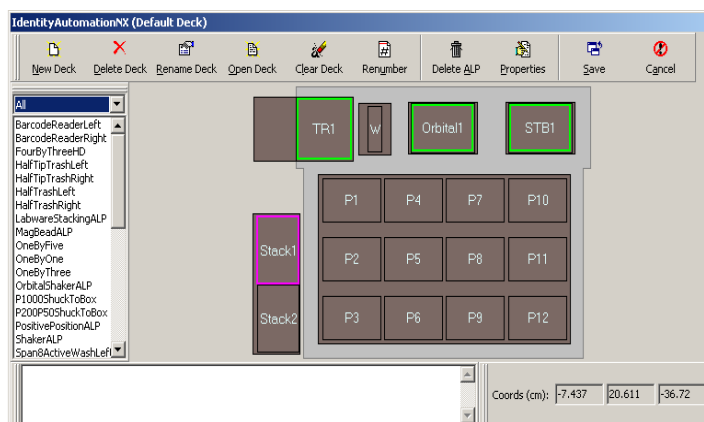

Figure 2. Deck positions.
- 2.3 The Deck Editor window will open up showing deck all of the deck positions (Figure 2). Positions 1-12 will be framed for the 4X3 ALP in the center of the deck.
- 2.17 Repeat the process for the STB1, going back to the deck screen shown in Figure 2 in order to double click on the STB1 ALP position.
- 2.20 Once the user returns to the deck layout, shown in Figures 2 and 9, the user will need to exit this prior to framing the orbital shaker. If any changes were made to the P1-12 or STB1 coordinates, then the user will need to click on the Save button otherwise the changes will not be saved. If no changes adopted for those deck positions, then click Cancel.